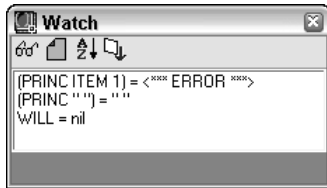

Figure 36-4: The Watch window shows an expression and a variable and displays their values.
4.  To add a variable to the Watch window, select the item to the right of the `FOREACH` function and choose **Add Watch** in the Watch window. The Watch window should look like Figure 36-4.